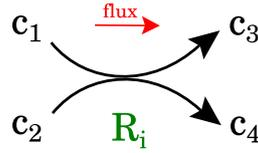

Figure 3: Flux direction for an inside reaction. It is always assumed to be positive from reactants side to products side.
- Check the flux direction for each reaction, make sure it is correct. Be consistent, set a standard for the model and document it in the model description (Figure 3).